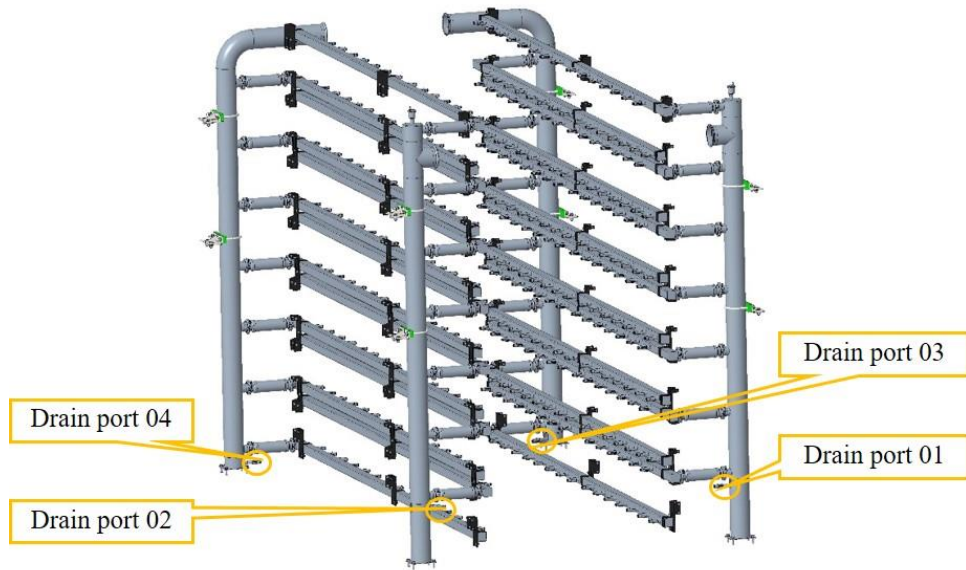
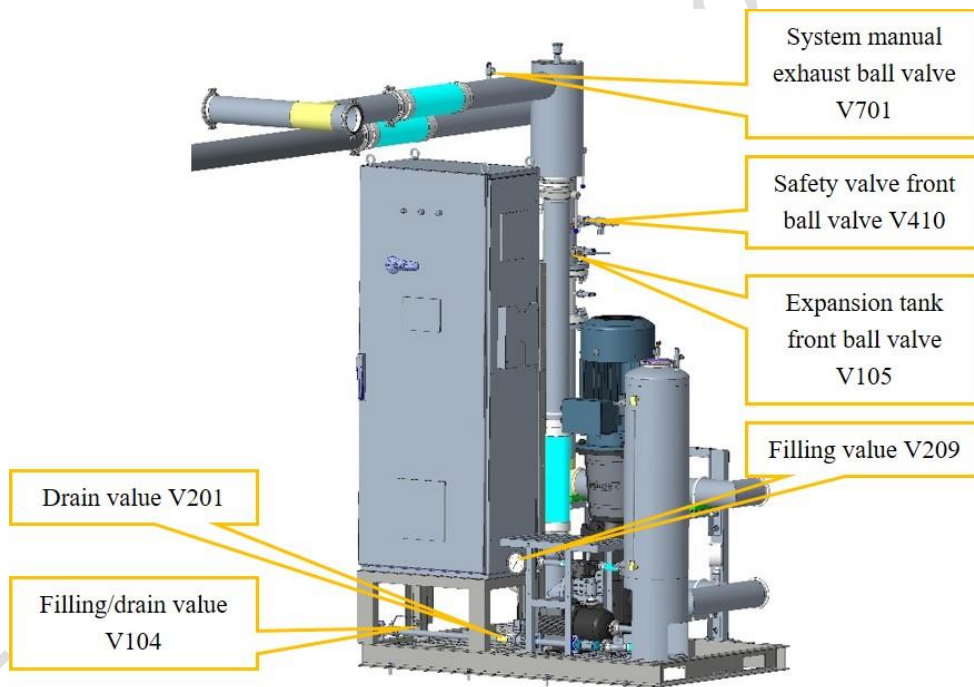

Figure 7.4 Water distributor drain port.
Figure 7.5 Schematic diagram of pump station valves.
- d. Open the filling valve V209 and close the drain valve V201 (see Figure 7.4 and Figure 7.5).